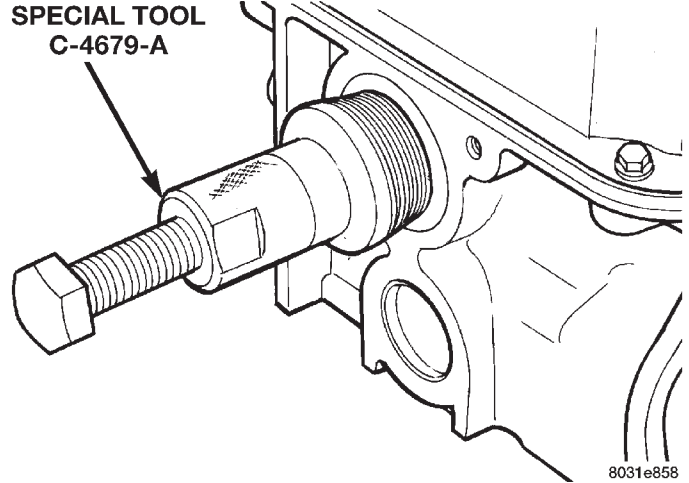

Fig. 67 Removing Camshaft Oil Seal
(3) Remove camshaft seal using Special Tool C-4679-A (Fig. 67).